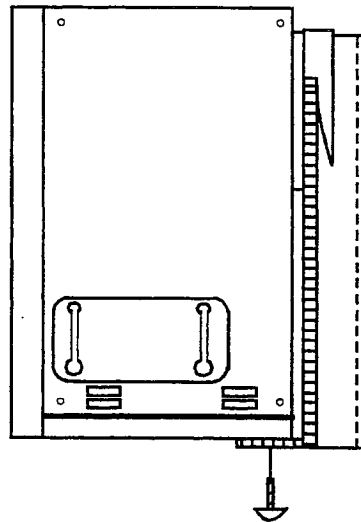

Figure 3-12 Securing the Level II KSU to the Wall Mount Bracket
3. Using the two provided bolts, secure the KSU to the wall mount bracket from the bottom. Refer to Figure 3-12 - Securing the Level II KSU to the Wall Mount Bracket.